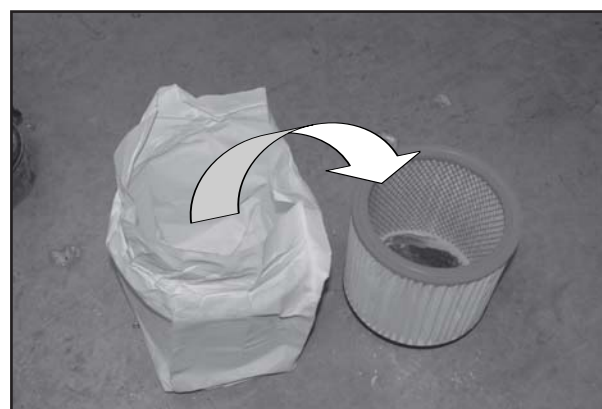

Fig.07
3. Remove the paper bag from around the cartridge filter and dispose. (Fig.07)